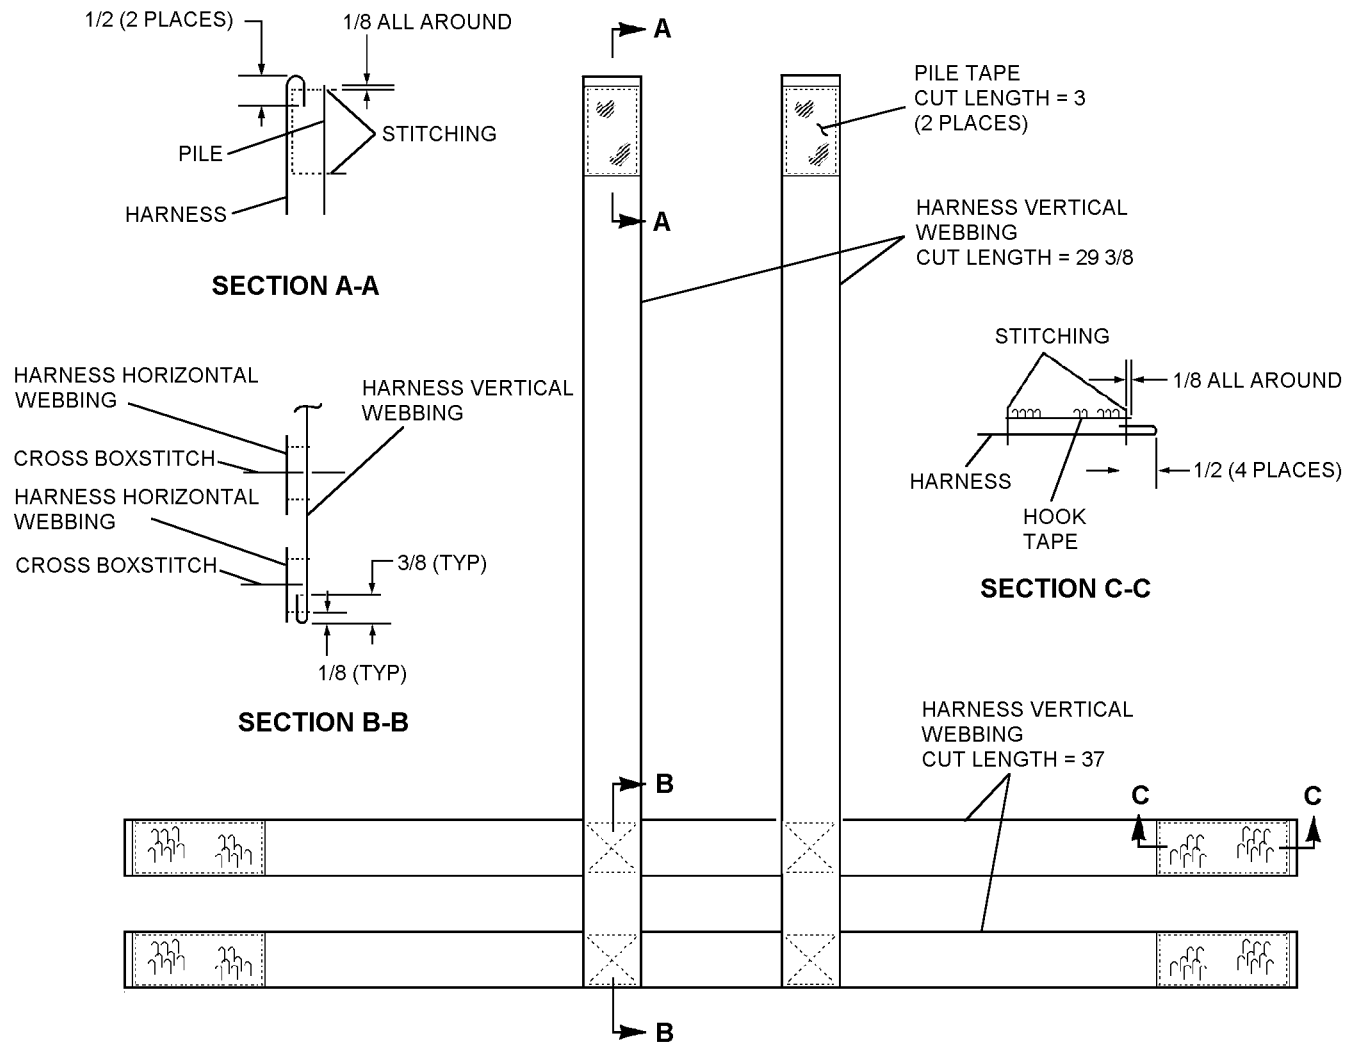

Figure 7-17. H-Harness Assembly
7-75. FABRICATION/REPAIR OF H-HARNESS (figure 7-17). The H-harness is fabricated as follows:
9. Lay the two 28 1/2-inch lengths, pile side down, vertically across the 36-inch horizontal lengths, positioned 13 3/4 inches from each end of the horizontal lengths and 4 1/2 inches from each other. The free end of each 28 1/2-inch length shall be flush with the lower edge of the near horizontal length of webbing (see figure 7-17).
10. Crossbox stitch the four sections of webbing together as shown in figure 7-17.